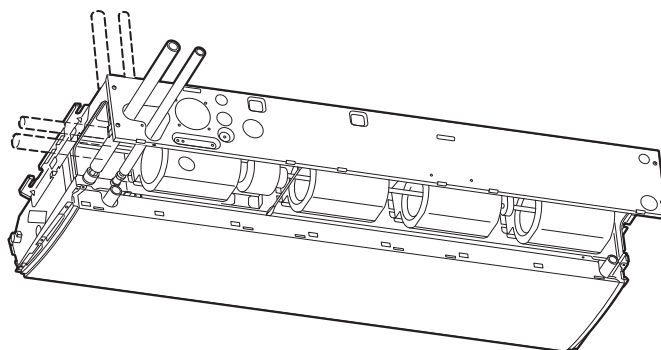

Fig. 3-145
- * If the drain hose is routed through the left side, refer to Fig. 3-145, and follow the procedure above to install the hose. Re-attach the rubber stopper that was earlier removed onto the right side. (Fig. 3-148)